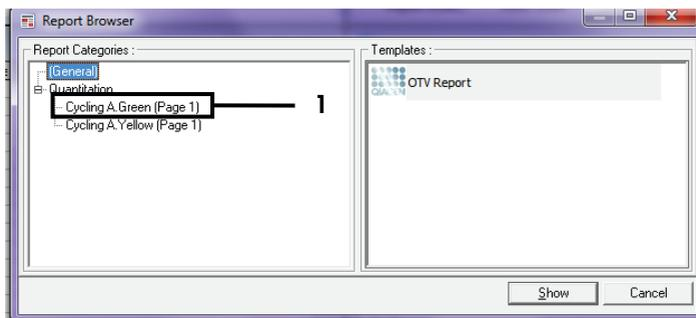

Figure 37. Report browser (1 = “Cycling A. Green [Page 1]”).
9. In the report browser, click **Cycling A Green (page 1)** under “Report Categories” (Figure 37).